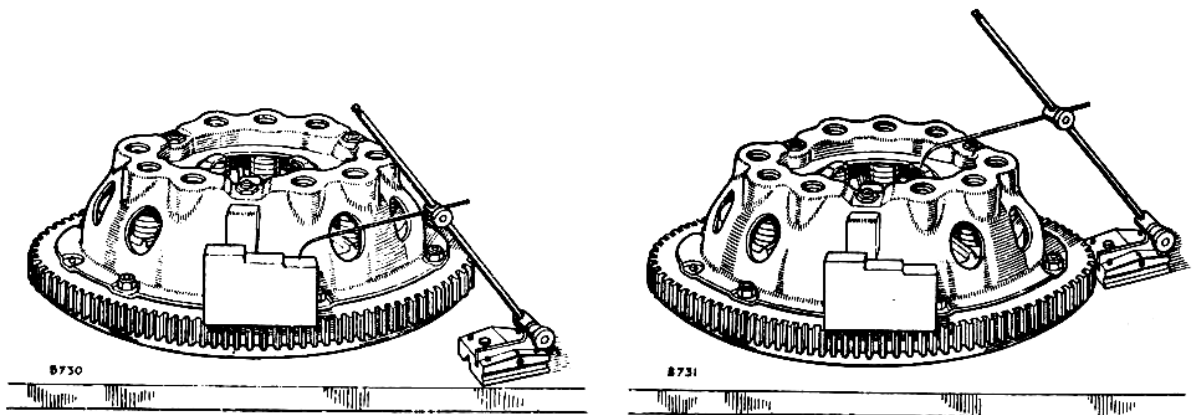

Fig. B-7—Setting the operating levers.
1. The setting of the clutch release levers is checked, using $\frac{3}{8}$ in. (9.5 mm) distance pieces in place of the driven plate. The levers must be adjusted to a dimension of 1.655 in. (42 mm) from the flywheel face, with a maximum of .010 in. (0.25 mm) difference in height between the three levers. (Fig. B-7.)